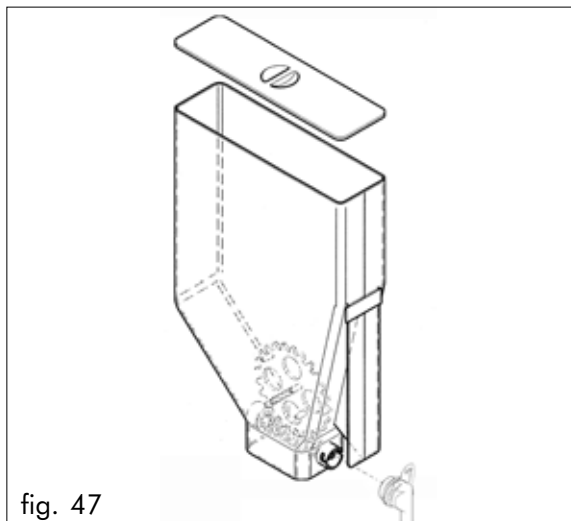

fig. 47
- Remove the lids and product chutes from the containers (fig. 47). Dip all in the solution previously prepared